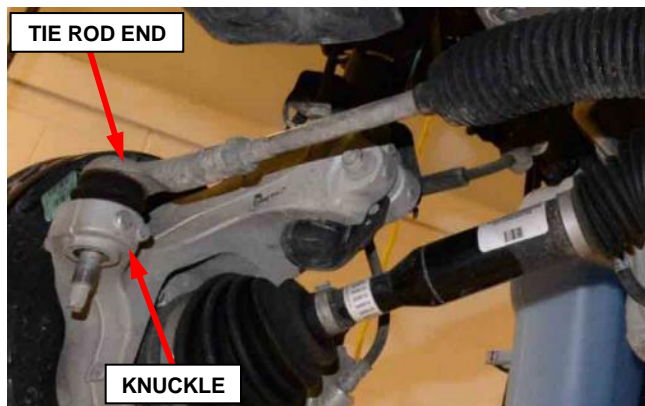

Figure 71 – Tie Rod End in Knuckle
47. **AWD/4WD only:** Place the steering gear tie rod ends loosely into the steering knuckle for support. Do NOT secure the tie rod ends, this is only for steering gear support during removal of front suspension crossmember (Figure 71).